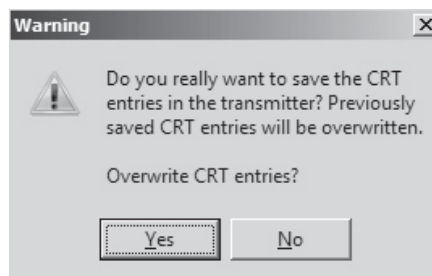

Fig. B.7: Warning (store CRT entries)
- Click Yes if the CRT entries are to be stored. A warning is displayed (see Fig. B.7).